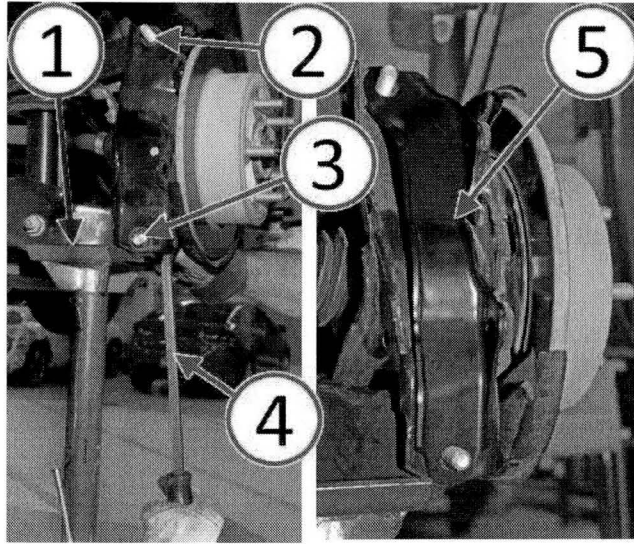

Fig. 2 Install Anti-Vibration Bracket
WARNING: To prevent personal injury and vehicle damage, use a suitable stand (1) to properly support suspension components while replacing the bolts (2, 3) securing the control arms to the trailing link (Fig. 2).
6. Remove and discard the bolt (2) securing the upper control arm to the trailing link (Fig. 2). Install the new bolt included with the anti-vibration bracket service kit.
NOTE: It may be helpful to use a pry bar (4) to align the bolt holes in the lower control arm and the trailing link (Fig. 2).
7. Remove and discard the bolt (3) securing the lower control arm to the trailing link (Fig. 2). Install the new bolt included with the anti-vibration bracket service kit.
8. Install the anti-vibration bracket (5) to the upper and lower control arm bolts (Fig. 2).